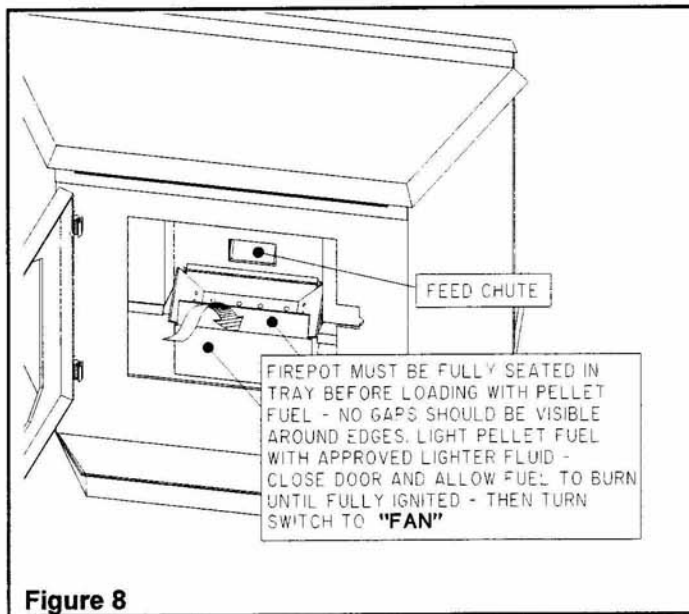

Figure 8
**IMPORTANT:** The fire pot must be seated flush and must sit even in the pot tray. Air leaking around the fire pot will create a poor burn (**Figure 8**). Light the pellets in Fire Pot using any approved lighter fluid.